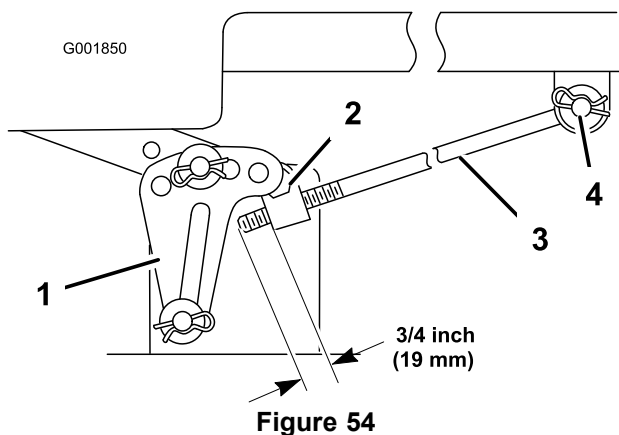

Figure 54
5. Measure the length of the rod extending out of the adjusting block on the sides of the chassis (Figure 54).
6. If the rod length is **not** a 3/4 inch (19 mm), remove the hairpin cotter and washer from the end of the adjusting rod (Figure 54) and turn the rod until the 3/4 inch (19 mm) dimension is obtained.